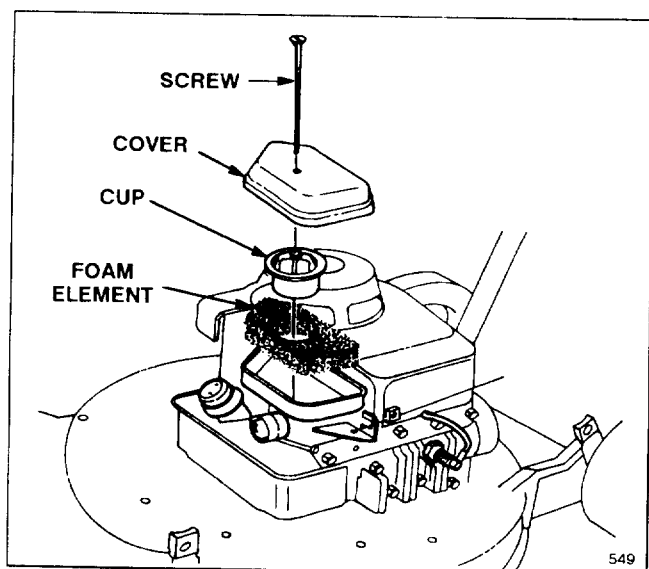

Figure 11
2. Remove screw from top of air cleaner. Lift off cover and clean cover thoroughly (Fig. 11).
3. Remove air cleaner cup from top of foam element (Fig. 11).
4. If foam element is dirty, remove it from air cleaner body (Fig. 11). Clean thoroughly.
1. Stop engine and pull wire off spark plug (Fig. 11).